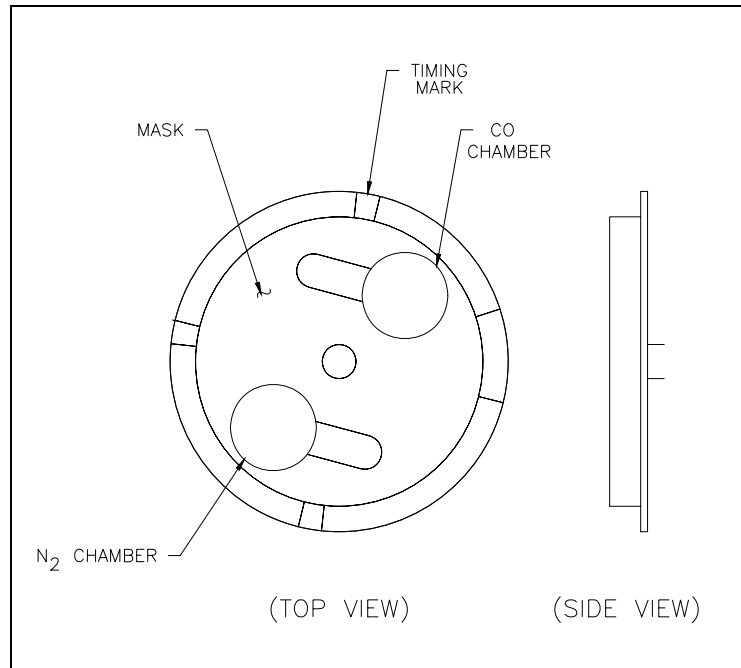

Figure 8. Gas Filter Correlation Wheel
- **Gas Filter Correlation Wheel.** The gas filter correlation wheel includes two gas filled sapphire chambers and mask areas. As the wheel rotates, the IR beam passes through either 1) the reference chamber which is filled with CO₂, removing the CO₂-sensitive wavelengths which are centered at 4.5 microns and passing the CO₂-insensitive wavelengths; 2) the measure chamber which is filled with nitrogen and passes the CO₂-sensitive wavelengths; or 3) a mask which blocks the beam. When the mask blocks the transmission of IR, the detector generates the mask signal used as a zero reference to determine the strengths of the other two signals. The differences between signals are used to compute the concentration of CO₂. Figure 8 shows the gas filter correlation wheel. The wheel is mounted on a shaft driven by a brushless DC motor.